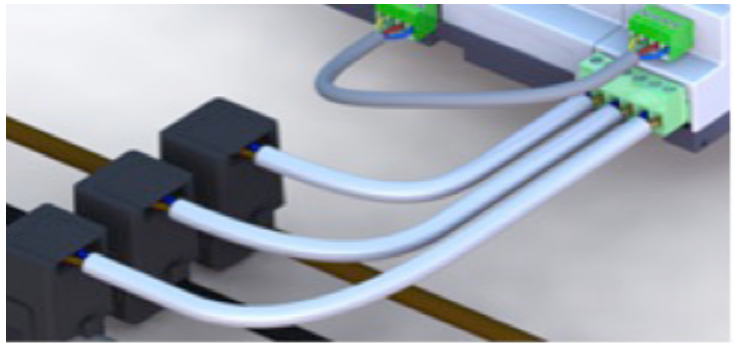

Fig. 2: Installing Current Transformers
- ▶ Clamp the current transformers on to the conductors (Fig. 2). Note the polarity of the CT; the arrow on the CT should point towards the load.
- ▶ Fasten the CT to the power cable with cable ties by using the tabs on the CT (Fig. 2).